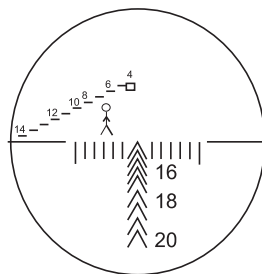

Fig. 10 – Reticle
- The scope (2) has fixed magnification of 8x. Up to the distance of 1400 meters (1531 yards) the reticle is adjusted by means of the corresponding knob marked from 4 to 14 on the top side of the scope. Over 1400 meters aiming is done by means of respective divisions at the reticle (Fig. 10).
- Screw with fixing pin (3).
- Firing range adjusting screw (4).
- Traverse adjusting screw (5).